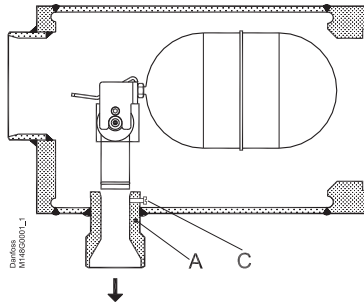
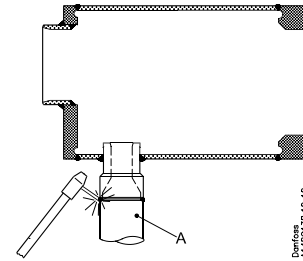

Fig. 1
Fig. 2
Mount the float valve horizontally with the outlet connection pos. A (fig. 1) vertically downwards.
The flow direction has to be from the flanged inlet connection as indicated with the arrows (fig. 1).
- Unscrew the screw pos. C (fig. 1) and lift up the float assembly from the outlet.
- Weld the outlet connection pos. A (fig. 1) into the plant as shown in fig. 2.
**NB!** When demand is heavy at low temperature operation, we recommend to check the velocity in the outlet branch. If necessary the diameter of the pipe which is welded on to the outlet branch pos. A (fig. 1) can be increased.
In case an insert with a slide (version before 2007) replaced by a present version, an extra threaded hole needs to be made in the outlet connection A to fix the screw (fig.1)
Monter le flotteur horizontalement avec le branchement de sortie pos. A (fig. 1) orienté verticalement vers le bas.
Le débit doit se faire dans le sens indiqué par la flèche (fig. 1).
- Desserrer la vis pos. C (fig. 1) et dégager l'ensemble à flotteur de la sortie en le soulevant.
- Souder la connexion de sortie pos. A (fig. 1) sur l'installation comme indiqué sur la fig. 2.